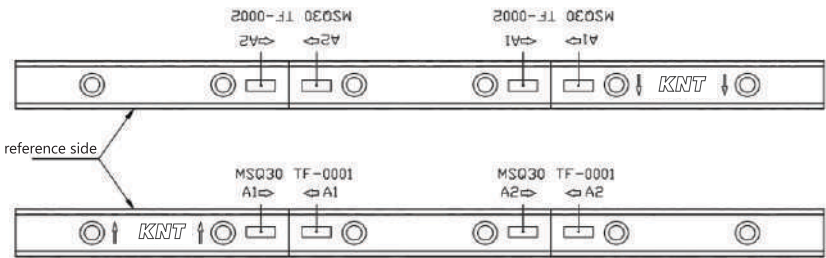

Figure 10
4. Butt-joint rail: Butt-joint rail should be installed by following the arrow sign and ordinal number which is marked on the surface of each rail as shown in the figure 10. To avoid accuracy problems due to discrepancies between the 2 rails such as for matched pair, butt-joint rails, the jointed positions should be staggered as shown in figure 11.